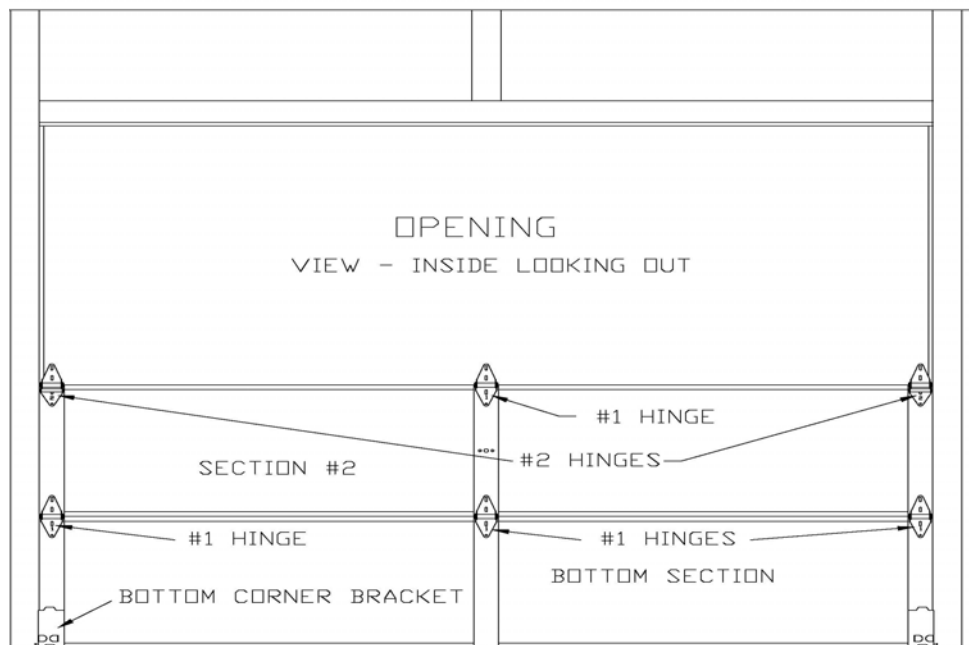

Figure 9
Step 5: Once the bottom section has been leveled and secured in the opening, place the #2 section face down on a pair of saw horses. Attach the #2 hinges to the top of the end stiles and the #1 hinges to the top of the center stiles as in step 1. Attach, if supplied; lock components as shown in the instructions supplied with the lock. Also attach, if required, (15' thru 16' doors) a strut, which should be installed just below the hinges as explained in step 3. Stack the #2 section in the opening and attach the upper leaf of the hinged on the bottom section to the #2 section using 1/4" x 3/4" self-drilling "Tek" screws. Do not tighten. See figure 9.